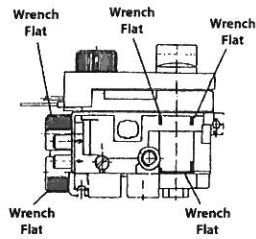

Figure 1
f. Apply light pressure only at wrench flats (see Figure 1) to avoid damage to control body, which can result in leakage or malfunction of control. Do not apply pressure to top casting or plastic cover.